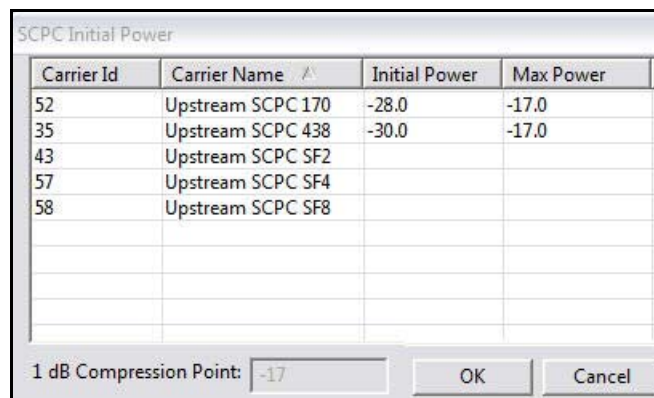

Figure 58. iBuilder Transmit Properties: SCPC Initial Power
3. In the 1 dB Compression Point field, enter the value for (CW) P1dB point determined in Step 7 on page 87. (This is for information only).
4. Click Edit SCPC Initial Power to open the SCPC Initial Power dialog box (Figure 58).